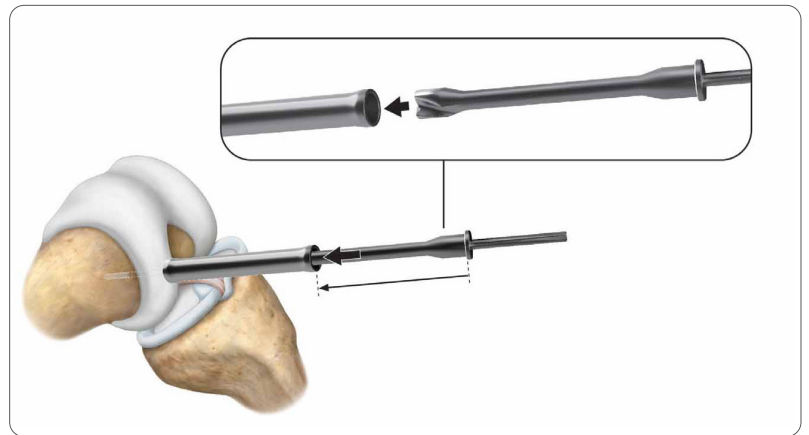

Figure 5
C. Thread the Drill Bit into the Drill Sleeve over the K-wire and drill until it reaches a stop (**Figure 5**).